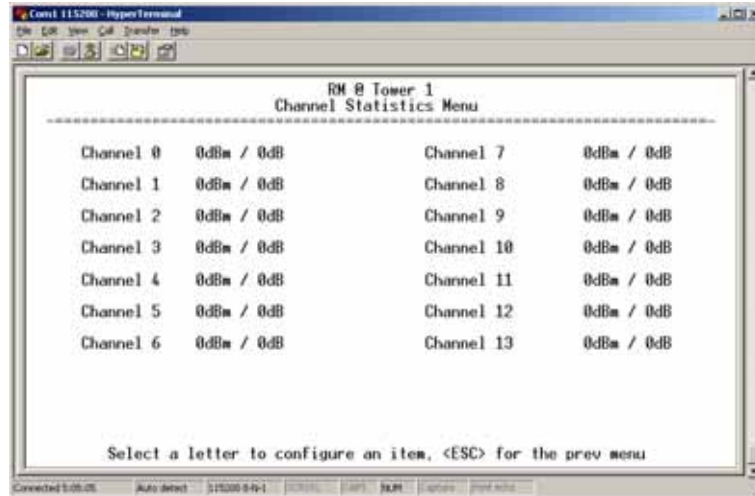

Figure 3-98. Channel Statistics Menu
- **Channel Statistics**—This selection presents a screen (Figure 3-98) that shows signal quality on a channel-by-channel basis. Readings are expressed in RSSI dBm and Signal-to-Noise Ratio (SNR) dB, respectively.